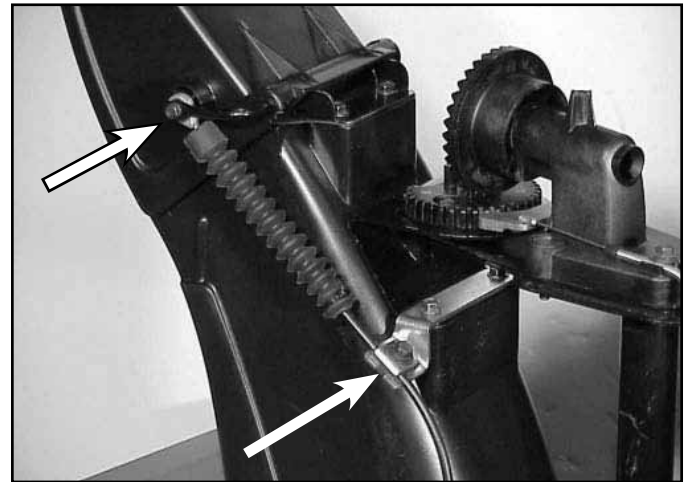

Fig 084
1. Disconnect the deflector cable from the deflector (Fig. 084).